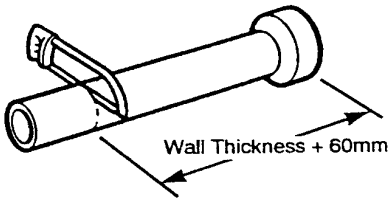

Fig. 23
2. Take the flue duct and mark off wall thickness + 60mm ( $2\frac{3}{8}$  in) from the swaged end of the duct and cut to size (Fig. 23). (Use the tape provided to give an accurate cutting guide by wrapping it around the flue duct with the edge marking the cutting line).